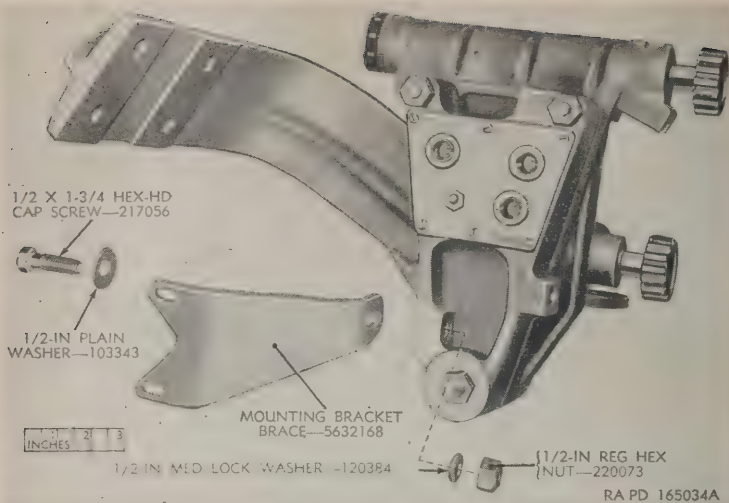

Figure 60. Telescope mounts M52C and M52D—removal of the mounting bracket brace.
*e. Mounting Bracket Brace (Telescope Mounts M52C and M52D)* (fig. 60). Remove the hex nut that secures the brace to the right-rear side of the upper mounting bracket. Remove the lock washer from the hex-head cap screw. Extract the cap screw and remove the plain washer from the cap screw.